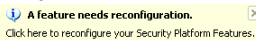

Figure 1
2. The Ultra TPM utility appears in the system tray after it is installed. To create a TPM key and save it to USB flash drive(s), right-click on the Ultra TPM icon and select **Initialize**. A screen in Figure 1 will appear. Select a USB flash drive and click the **Enable Backup to BIOS**^(Note 2) check box, or select at least two USB flash drives. Click **OK** and then enter the user password^(Note 3) created with Infineon Security Platform Settings Tool. Click **OK** to store the key on your USB flash drive or in the BIOS.